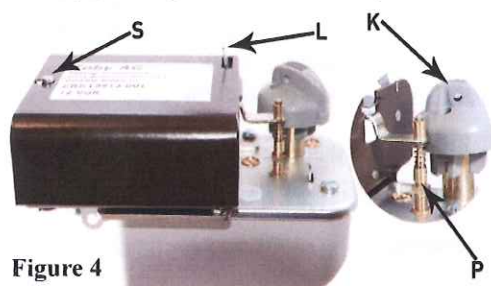
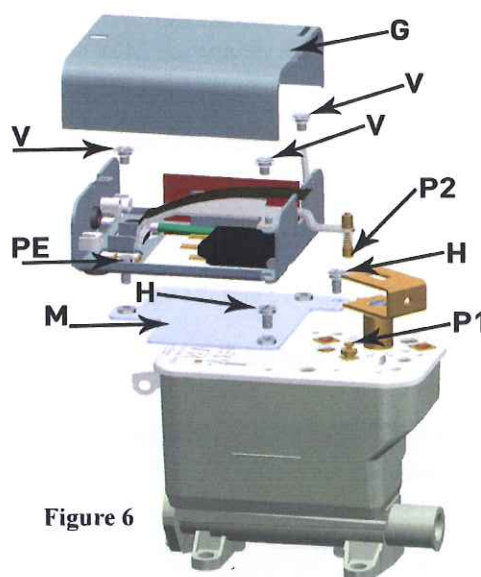

Figure 4
Figure 6
The ZR electric top is supplied for installation on the Toby DVR5 oil control valve with thermostat pin (Fig. 6 - P1 + P2).
Fig. 2 shows the wiring arrangements. The cables are fed through the grommets (C) in the end of the ZR housing and retained by the strain relief (D) inside the housing. **Fig. 3** shows the wiring terminal block. Connections should be made in accordance with Pattern 1, for appliances without fan assistance, Pattern 2 and 3 for high and low voltage operation with fan. For 240 volt applications the earth connection (PE, **Fig. 6**) must be made. On fan switch models it is possible to reduce the speed of the fan on low fire by the addition of a resistor 'R', see Pattern 2 and 3 at cable connection no 6. Please check before connection that the voltage of the ZR electric top is the correct version for the appliance voltage.
The ZR electric top is usually mounted by Toby onto the oil control valve and then supplied to the customer. If a ZR electric top must be replaced by the customer, proceed as follows. Remove screw (S) in **Fig. 4** and remove the cover (G) in **Fig. 6**. The adaptor plate (M) is fastened onto the oil control with the 2 screws (H). The ZR electric top is then fixed onto the adaptor plate with the 3 screws (V). Check and adjust if necessary that the pin (P2) is directly above the thermostat pin (P1) in **Fig. 6** before tightening screws (V). Always check the local by-laws and manufacturers instructions before assembly.